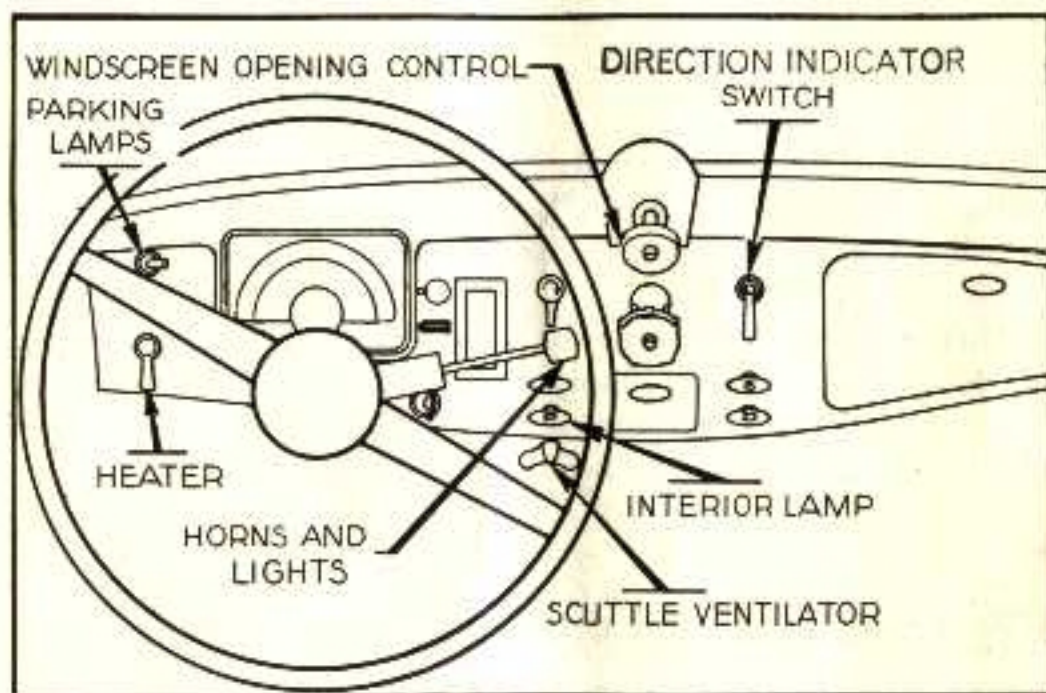

Fig. 10. — INSTRUMENT BOARD.
By turning the Heater control knob (fig. 10) you can open or close the Heater valve.
Pulling the Knob (fig. 10) lights and extinguishes alternately the Interior Lamp.
- a. The windscreen, by turning the Knob shown in fig. 10.